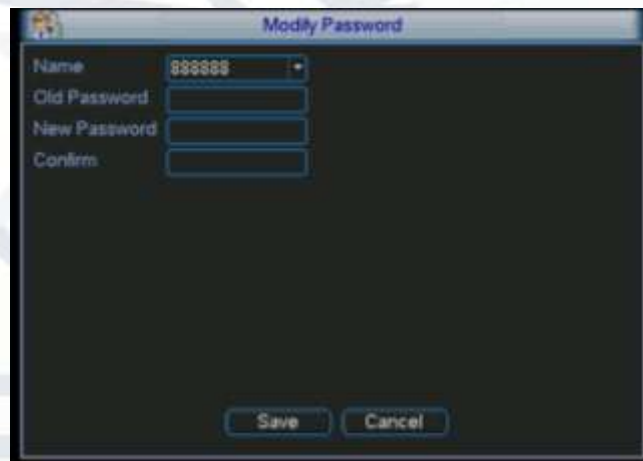

Figure 4-89
1. Click the password button, the interface is shown in Figure 4-89.